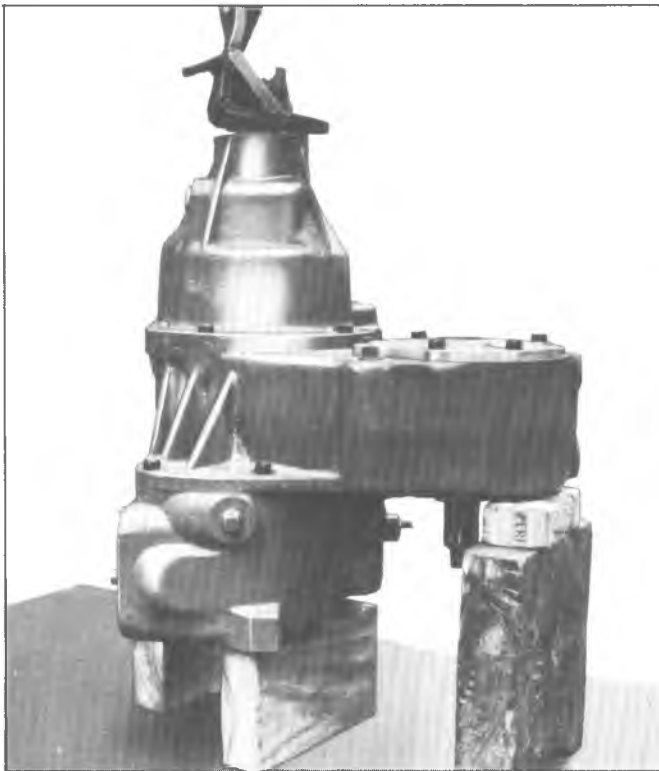

Fig. 6F—Positioning Transfer Case for Disassembly
5. Using a hoist or other suitable lifting tool, position assembly on blocks (Fig. 6F).